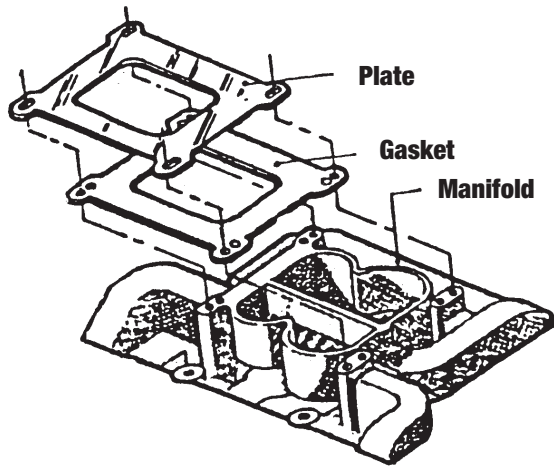

Figure 2 - Square-Bore Carburetor Adapter Plate
- **CARBURETOR PLATES AND GASKETS:** For square-bore carburetor installations on intake manifolds #2176 and 3776, you must install the supplied carburetor plate and gasket to seal the carburetor base (**See Figure 2**).